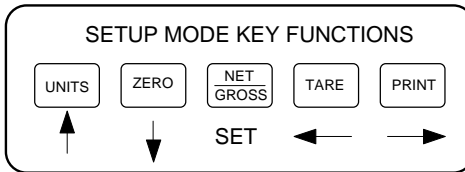

Figure 4-1: Setup Menu Key Assignments
3. Use the left or right directional keys (shown in Figure 4-1 below) to move the decimal point position to the correct position. Pressing the PRINT key or the TARE key will change the position of the decimal point.
6. Use the four directional keys (shown in Figure 4-1 below) to adjust the displayed value to the actual custom unit multiplier value. Increase the flashing digit by pressing the **UNITS** key. Decrease the flashing digit by pressing the **ZERO** key. Pressing the **PRINT** key or the **TARE** key will change the position of the flashing digit.